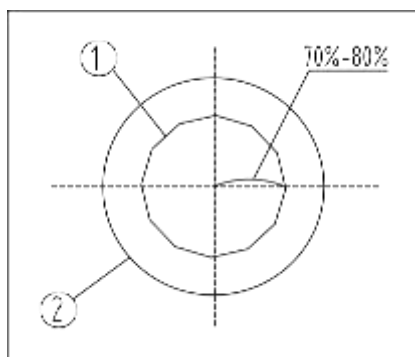

Fig.13
2. Adjust condenser adjustment knob③ in clockwise direction, raise the condenser to the top, let the illumination light fill the field of view. As the specimen contrast is usually low, it is advised to adjust the condenser aperture diaphragm to be 70%-80% of the N.A. of objective. Rotate the aperture diaphragm adjusting ring④, align the arrow with the magnification position on the diaphragm seat⑤. The eyepiece can be taken off when it's necessary to observe from the tube. Adjust the aperture diaphragm adjusting ring④ until see the figure as shown in Fig. 13, to adjust the proportion (see Fig. 13&14, ① is the image of aperture diaphragm, ② is the edge of objective).